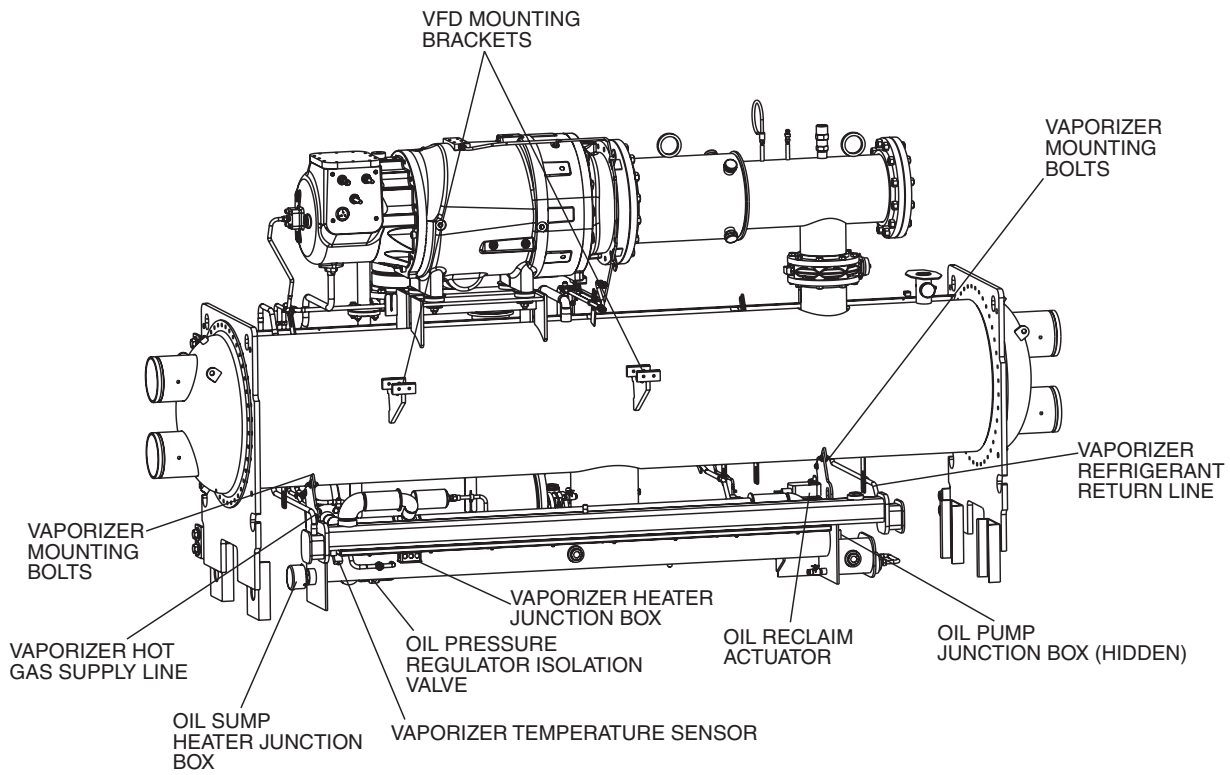

Fig. 34 — Oil Concentrator Removal, Q and R Compressors (Unit with R Compressor Shown)
SEPARATE THE VAPORIZER FROM THE CONDENSER — The VFD mounting brackets (Fig. 34 and 35) extend beyond the outboard edge of the tubesheet. The vaporizer extends beyond the perimeter of the condenser tubesheet.
1. Cut the vaporizer hot gas supply line near the oil concentrator (Fig. 34 and 35).
- d. vaporizer heater cable in the vaporizer heater junction box (Fig. 34 and 35)
- f. oil sump heater conduit from its junction box (Fig. 34 and 35)
- g. vaporizer temperature sensor (Fig. 34 and 35)
8. Rig the vaporizer with the lifting points on the vaporizer mounting bracket and remove the 4 bolts that secure it to the condenser (Fig. 34 and 35).